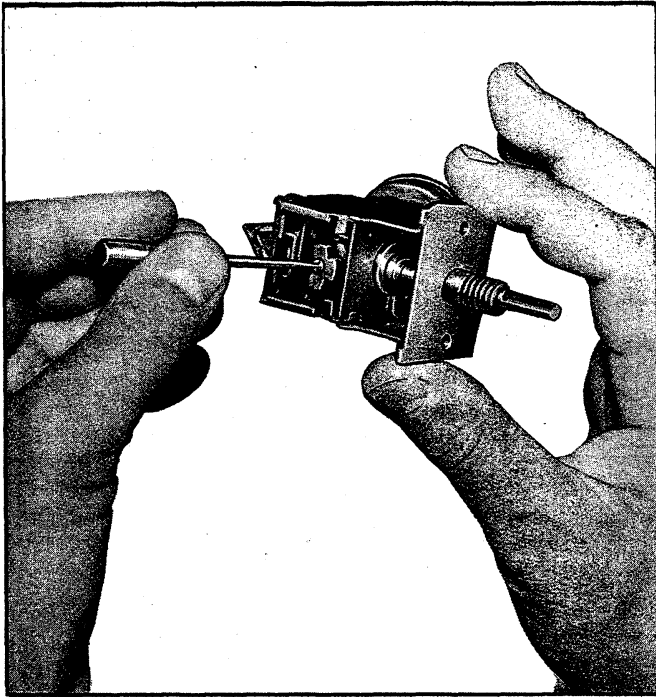

Fig. 54—Thermostatic Switch Adjustment
4. If the low side pulls down lower than the prescribed pressure at the end of each cooling cycle, turn the adjusting screw (See Figure 54) clockwise in single